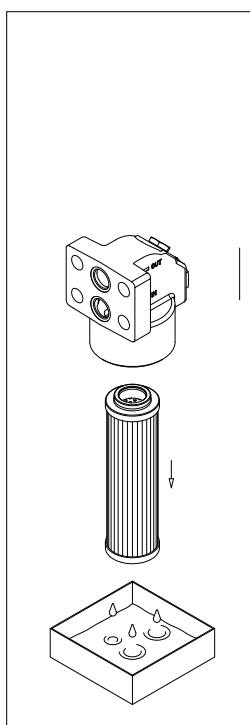

fig. 22
- (Fig. 22) Pull the filter element out. Remove all the seal from the bowl and the filter element and prepare the spare parts referring to the list in paragraph 12.